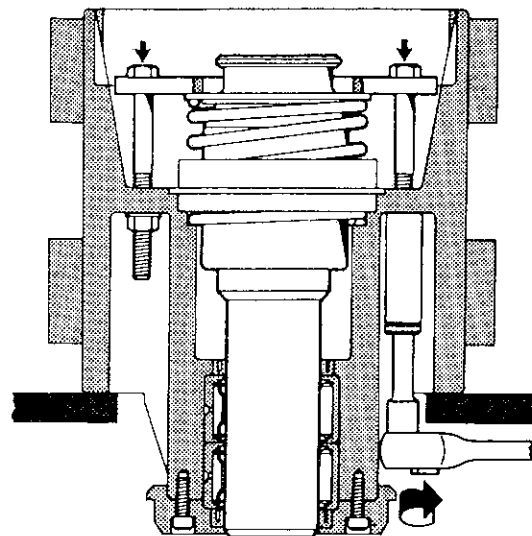

Figure 5.27
26. Insert the drive return spring (32) into the drive housing bushing (33).
27. Lubricate the splines and plain end of the facet drive assembly shaft (31) and insert plain end into the drive housing adapter (33).
28. Attach Tool No. 22776 to drive housing adapter by collapsing the drive return spring (32) with the facet drive unit (32) and securing with three nuts as shown in Figure 5.27.